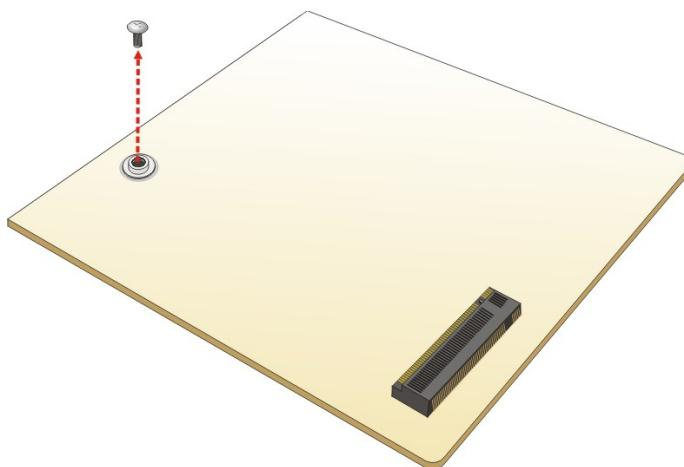

Figure 4-2: Removing the M.2 Module Retention Screw
Step 2: Remove the on-board retention screw **Figure 4-2**.